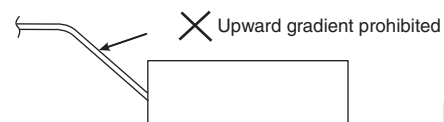

Fig. 3-35
- Do not install the pipe with an upward gradient from the connection port. This will cause the drain water to flow backward and leak when the unit is not operating. (Fig. 3-35)